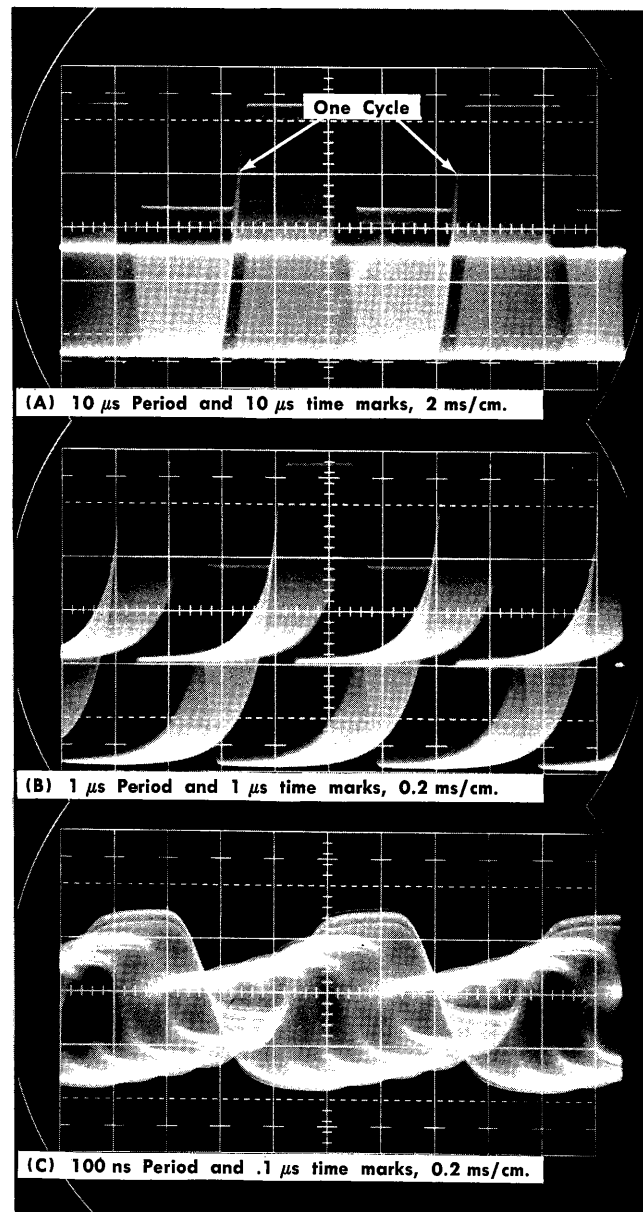

Fig. 5-4. Typical displays of beat frequency.
e. Set the Type 284 PERIOD switch to 10  $\mu$ s and set the Time Mark Generator for 10  $\mu$ s time markers. Internally trigger the test oscilloscope on the beat frequency displayed. Fig. 5-4 shows the typical displays.